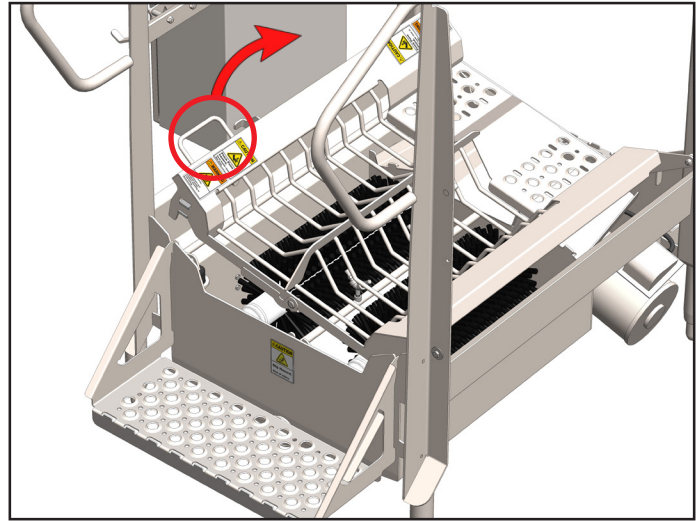

Fig. 8.1: Grate Lifting, shown on BLX-1000S
1. Shut down the unit (see pg. 5) and lift the grate up by its handle [Figure 8.1].